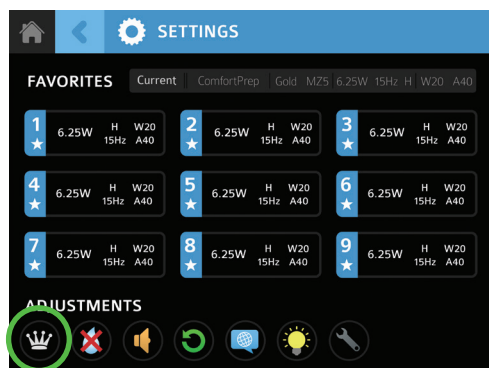

Figure 7C
C. Once the Prime function has completed, press the back arrow and then proceed to the Advanced screen by pressing the Advanced icon (crown). (Figure 7C)